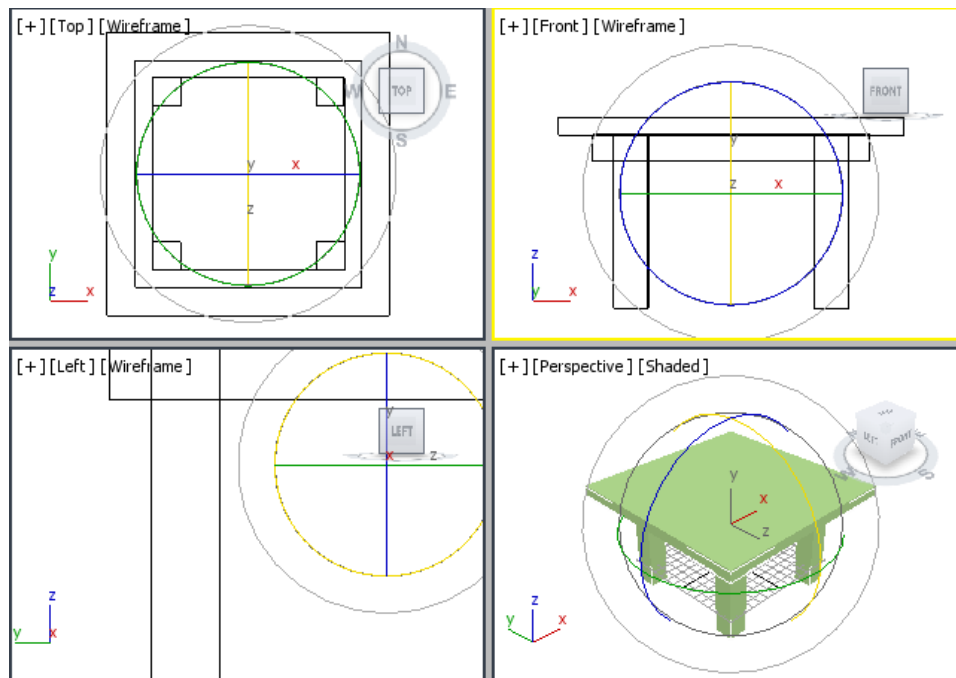

Figure 5-8 Table rotated upright to stand on its legs
4. Invoke the **Zoom Extents All** tool from viewport navigation controls; *Table* is zoomed to its extents in all four viewports after rotated upright to stand on its legs, as shown in Figure 5-8.